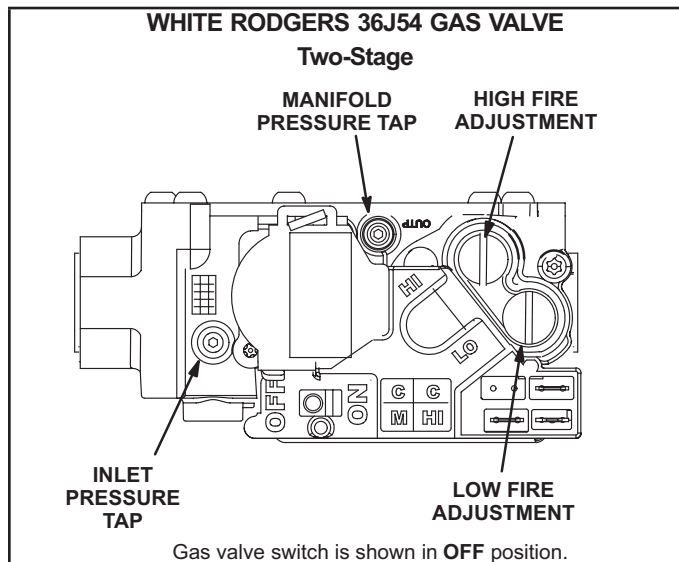

FIGURE 31
Gas Valve Operation (FIGURE 31)
- 5 - Move gas valve switch to **OFF**. See FIGURE 31.
- 6 - Wait five (5) minutes to clear out any gas. If you then smell gas, **STOP!** Immediately call your gas supplier from a neighbor's phone. Follow the gas supplier's instructions. If you do not smell gas, go to the next step.
- 7 - Move gas valve switch to **ON**. See FIGURE 31.